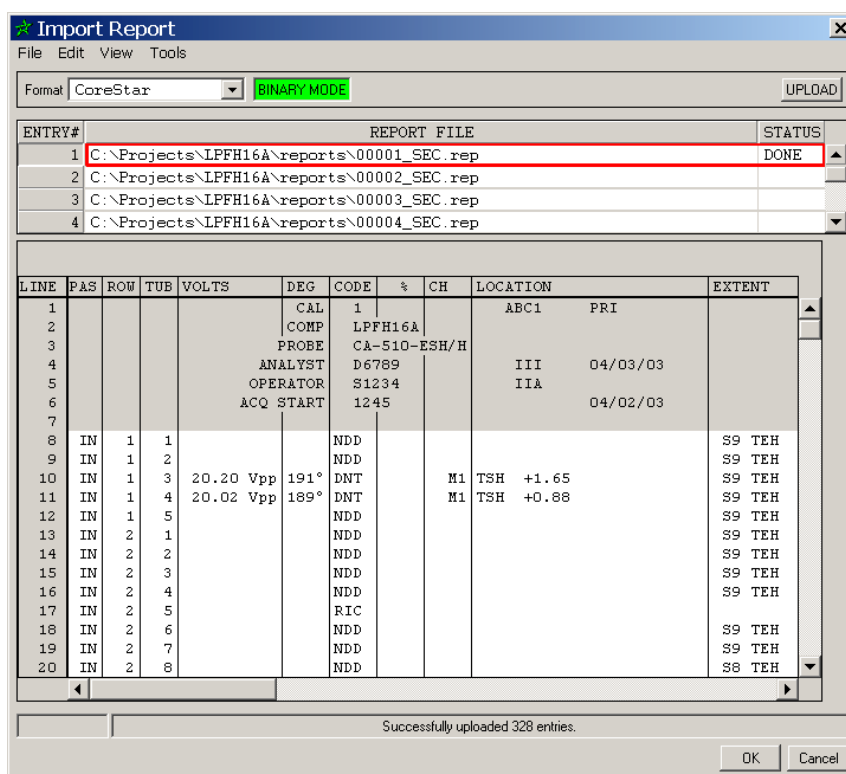

Figure 15-1. Import Report Dialog
- STEP 9:** Click *Upload* in the upper right corner of the *Import Report* dialog. As shown in Figure 15-1, the word *Done* appears in the *Status* field for this report in the upper section. In addition, a message is displayed in the status bar at the bottom of the *Import Report* dialog indicating that the upload was successful.